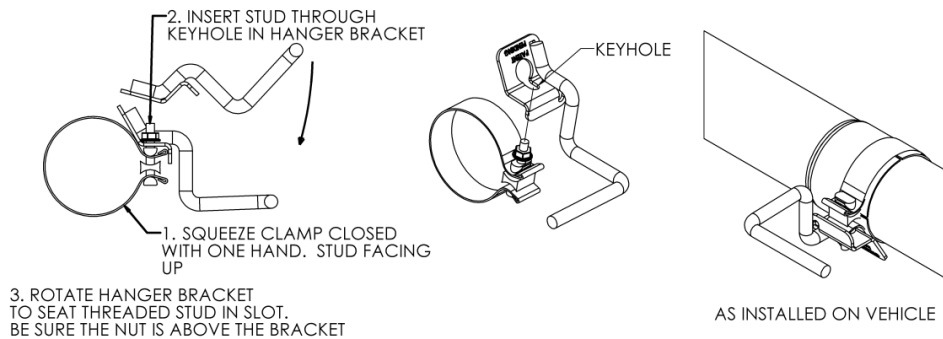

Figure 7
4. Install the **Extension Pipe** over the catalytic converter. **See Figure 7.** The **Extension Pipe** provided is pre-cut for the crew cab long bed configuration. All other configurations will require this pipe to be cut.